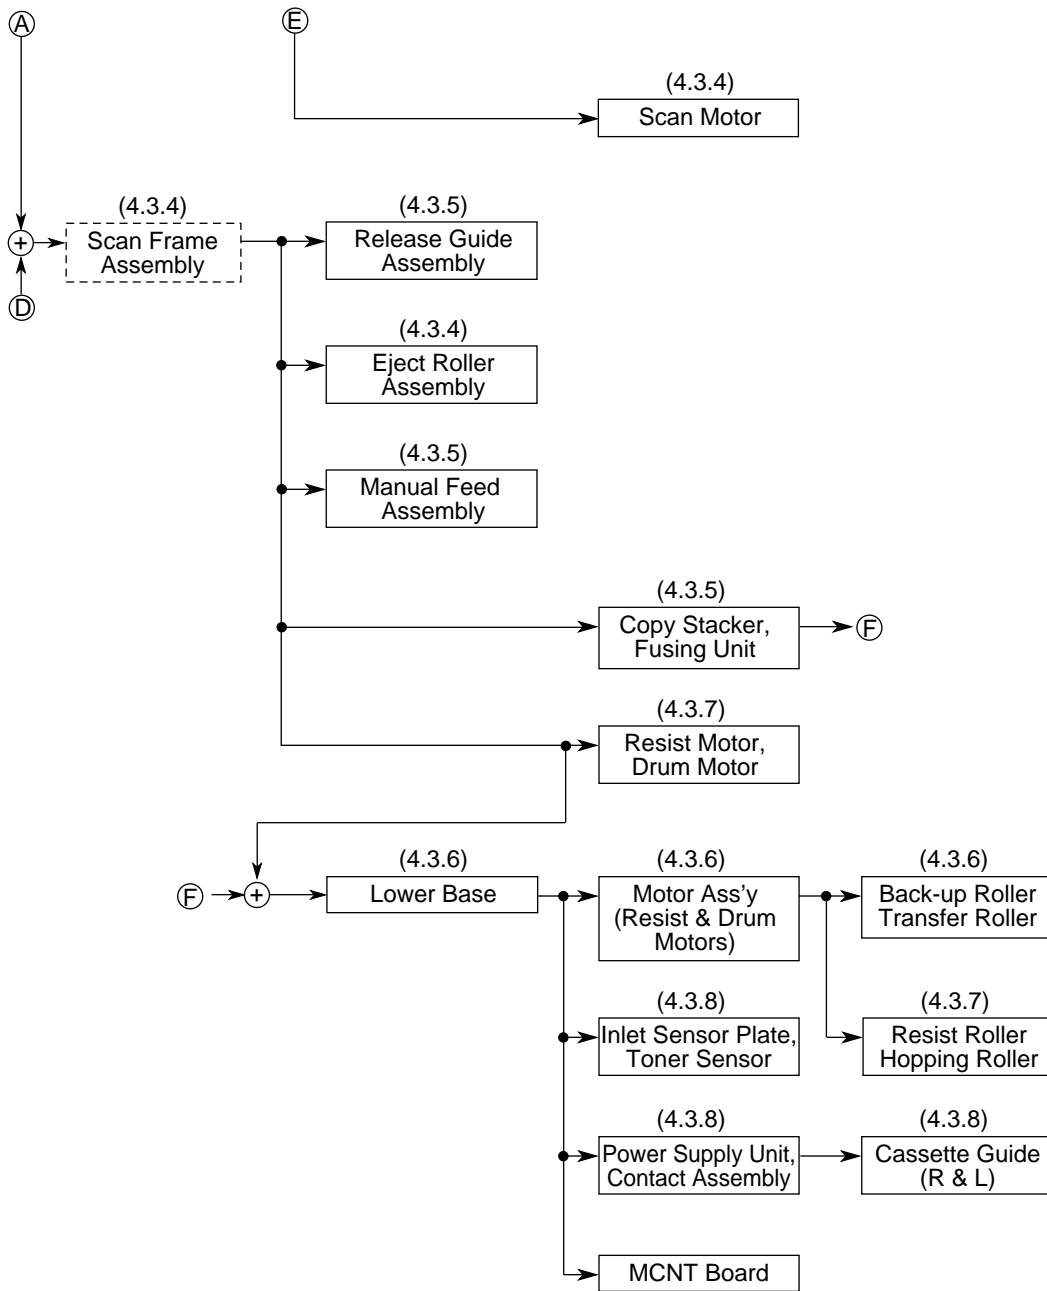

Figure 4.1 (2/2) Disassembly Procedure Flow
- Figure 4.1 shows the disassembly procedure flow as generalization.